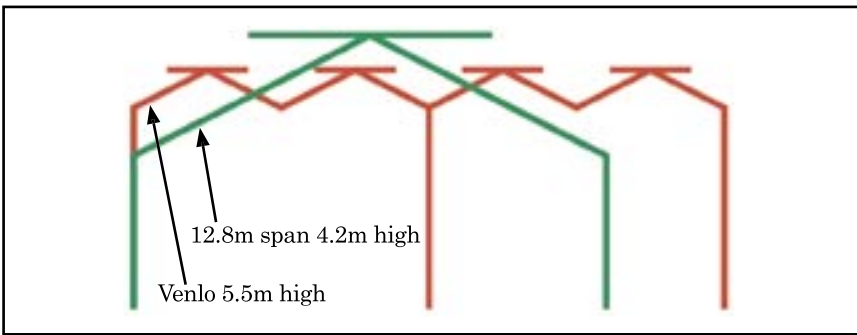

Figure 5. Natural ventilation: Venlo vs. widespan.
**Natural Ventilation.** Ventilation can be introduced from the side or the roof of a structure. Natural ventilation offers a quiet solution and the current trend is to build higher greenhouses to increase the “chimney effect”. Increasing the span of a greenhouse bay also has a beneficial effect on ventilation such that a 4-m-high, 12.8-m-span greenhouse is the equivalent of a 5.5-m-high Venlo-style glasshouse (Fig. 5).